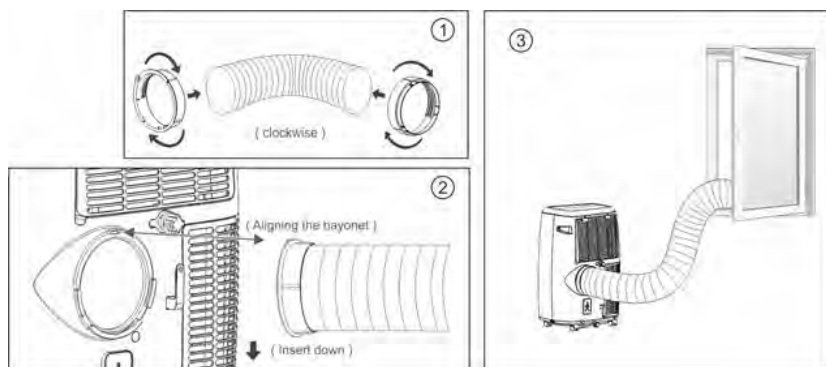

Fig.9
2. Insert the square fixing clip into the openings on the back of the air conditioner (see Fig.9).